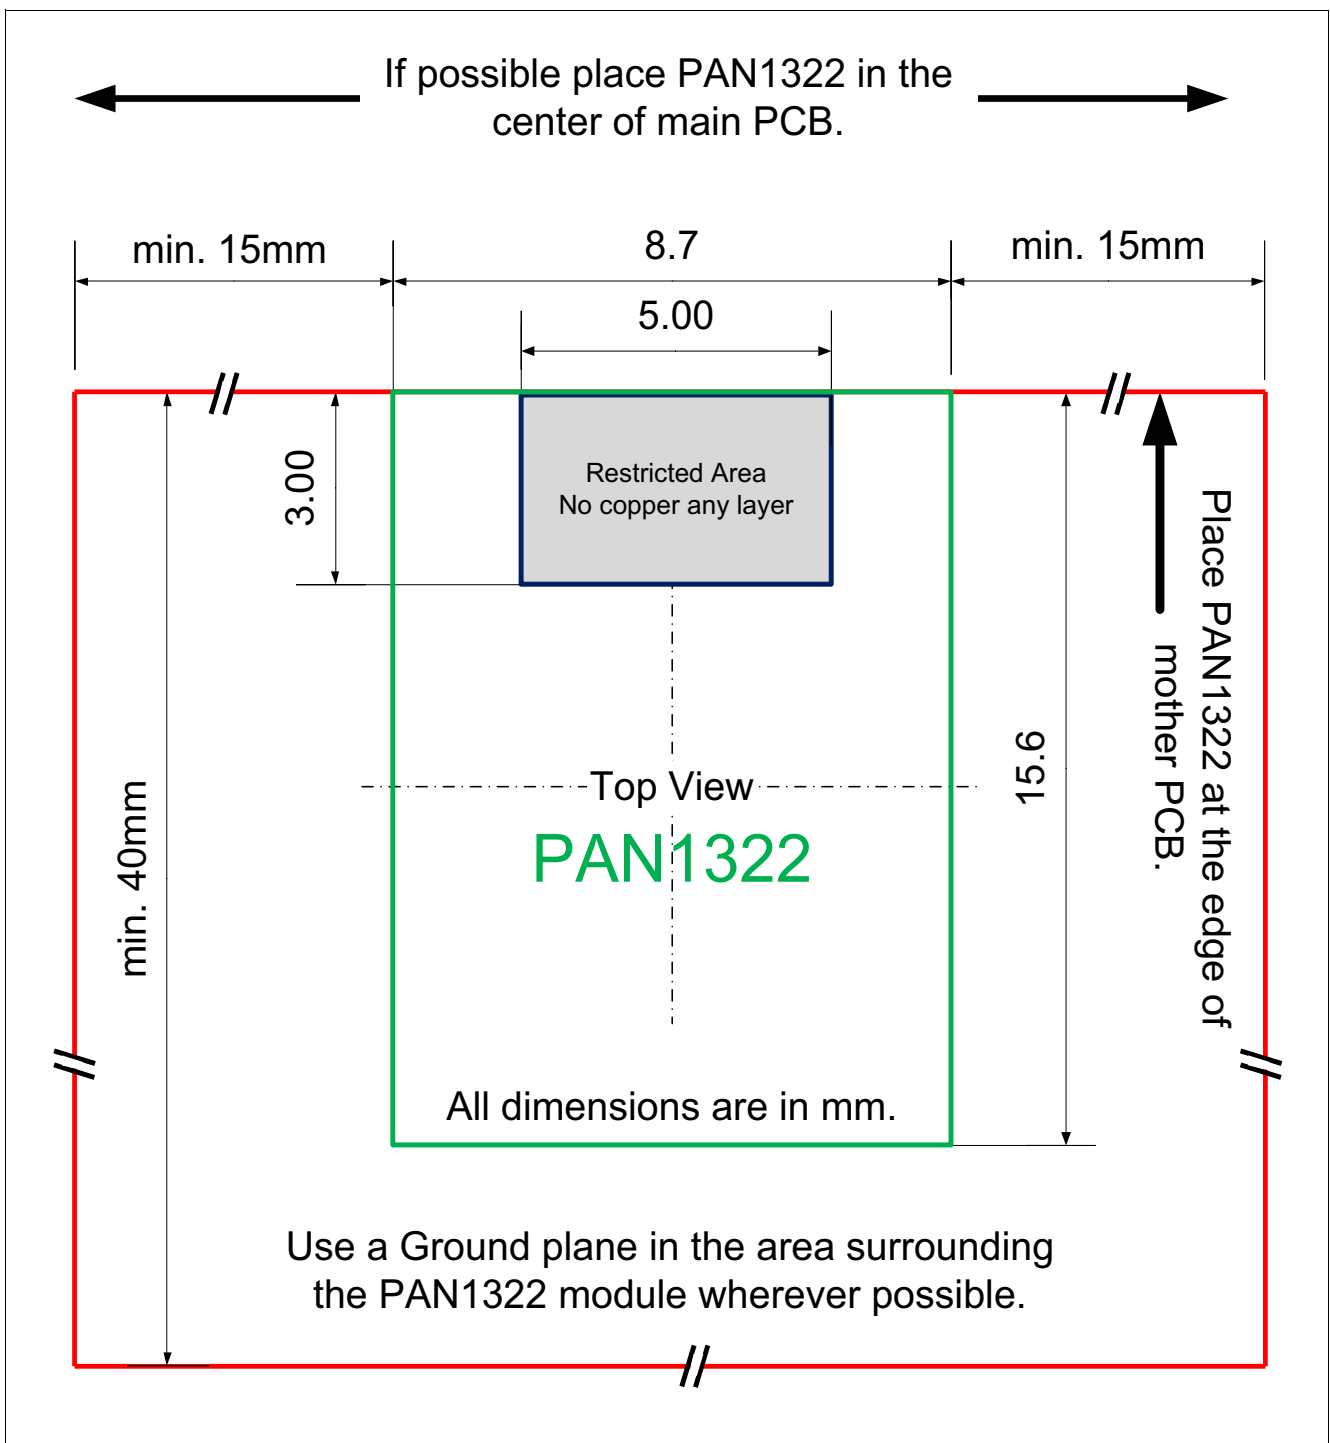

Figure 10 Cutout Drawing
- Users and installers must be provided with antenna installation instructions and transmitter operating conditions for satisfying RF exposure compliance, please refer to Figure 10.